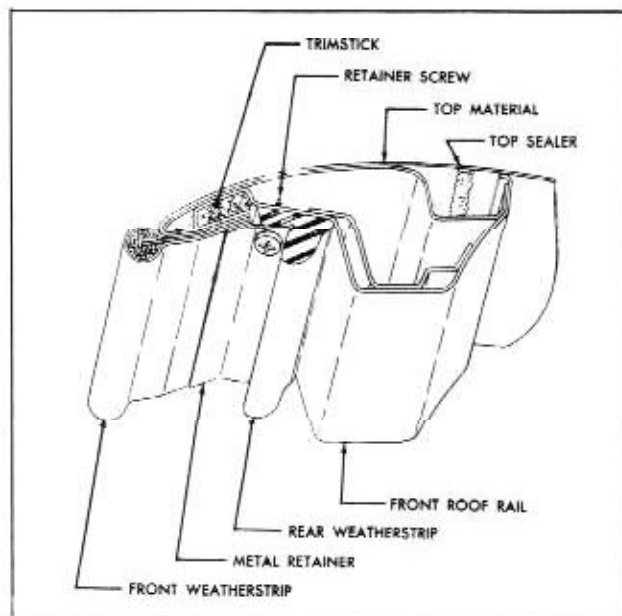

Fig. 17-119 Front Roof Rail Sealing
3. At front of body, raise front roof rail, remove retainers and front weatherstrips and detach top material from front roof rail. (Fig. 17-119)